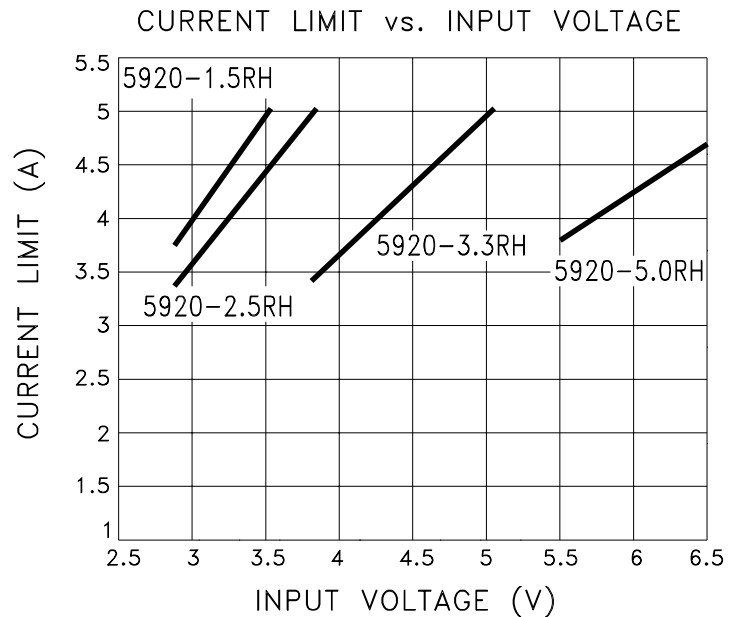

FIGURE 1
- ⑦ Output current limit is dependent upon the values of V_{IN} and V_{OUT} . See Figure 1 and typical performance curves.
- ⑧ Continuous operation at or above absolute maximum ratings may adversely effect the device performance and/or life cycle.
- ⑨ V_{IN} shall be as specified or $V_{IN \text{ min.}}$, whichever is greater.
- ⑩ Not applicable to versions where $V_{IN} = V_{IN \text{ Min.}}$.
- ⑪ Consult factory for post radiation limits.
The MSK 5920RH current limit function is directly affected by the input and output voltages. Figure 1 illustrates the relationship between V_{IN} and I_{CL} for various output voltages. It is very important for the user to consult the SOA curve when using input voltages which result in current limit conditions beyond 4.5 Amps. When using input voltages which result in current limit above 4.5 Amps, the user must maintain output current within the SOA curve to avoid damage to the device. Note that 5 Amp maximum is due to current carrying capability of the internal wirebonds.